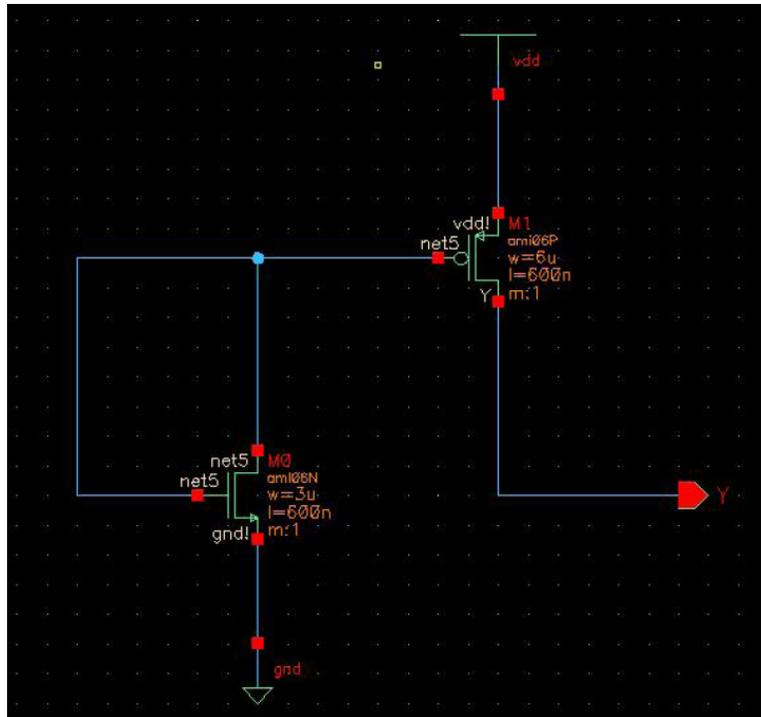

Figure 1: Schematic of the tiehi cell
Figures 1 and 2 show the schematics for the tiehi and tielo cells that you will define for your library. These will typically be used to drive cell library inputs either high or low. The tiehi cell creates a diode connected n-type device that provides a low voltage output. The tielo cell is similar, creating a diode-connected p-type to produce a high voltage output.
- TIEHI – A cell that provides a connection to VDD. There is only one output, and no inputs. The single output is a connection to VDD. This is a resistive connection through a transistor so that the gate that it connects is protected from direct connection to the power supply, as shown in Figure 1.